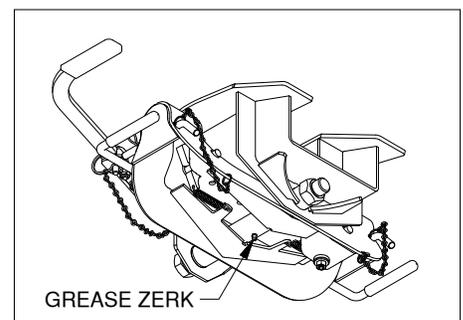

FIGURE G1: View under coupler.
- Grease the saddle through the grease zerk approximately every six months with multi-purpose grease. This allows the coupler to pivot freely, see Figure G1.